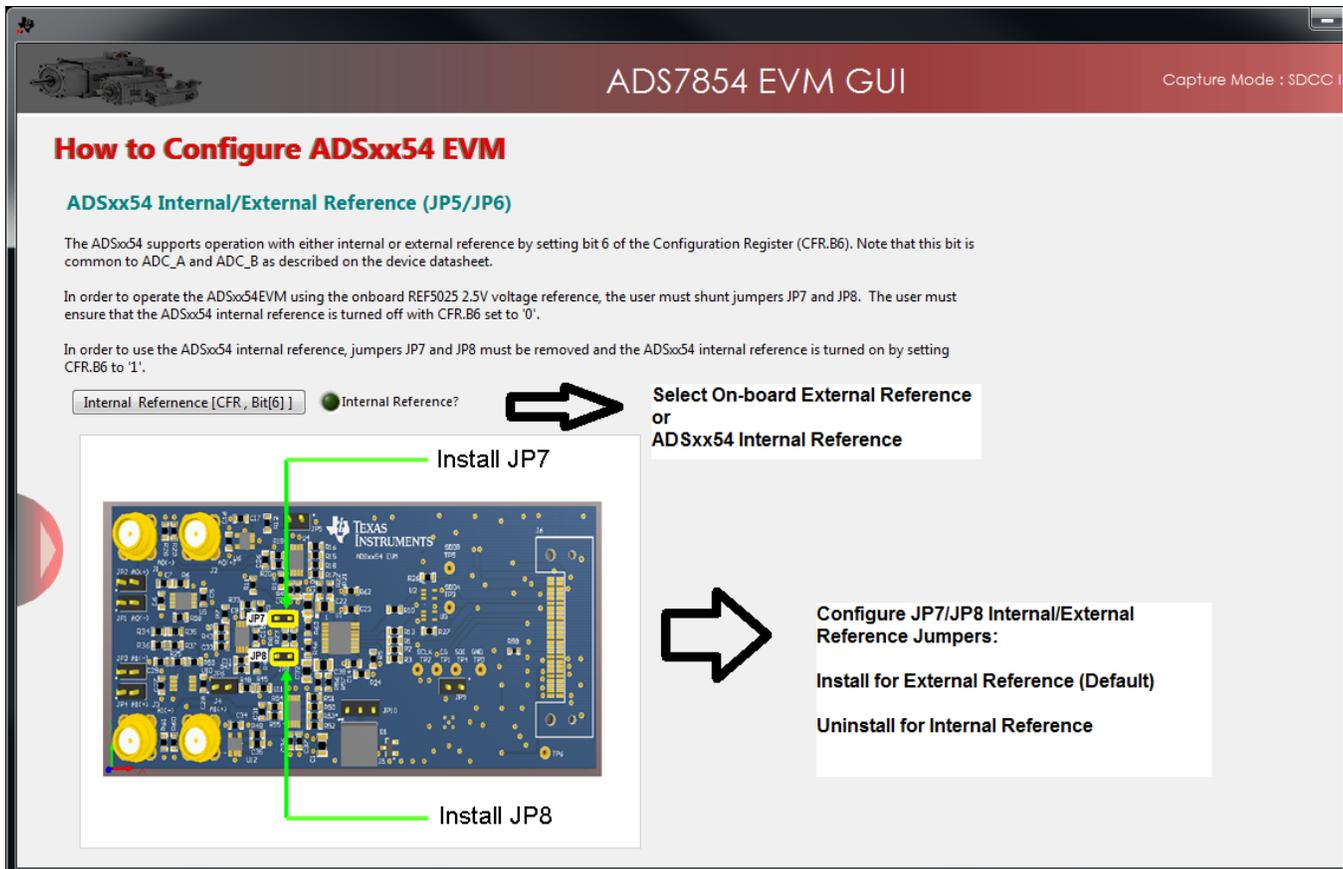

Figure 16. Selecting the External Onboard Reference or the ADSxx54 Internal Dual Reference
2. In the *ADSxx54EVM Settings* page, find the *Internal Reference [CFR, Bit[6]]* button to select the internal or external onboard reference sources. Jumpers JP7 and JP8 must be installed when selecting the external REF5025 (U5) onboard reference. Make sure to uninstall jumpers JP7 and JP8 when selecting the ADSxx54 device internal reference. The GUI displays the appropriate reference jumper settings, as shown in Figure 16.